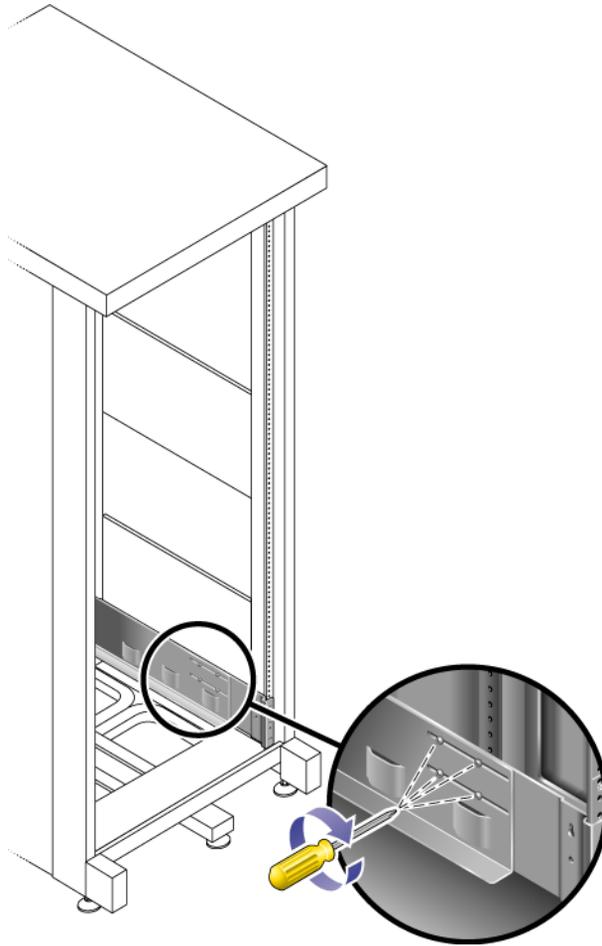

FIGURE 2-7 Tightening the Rail Adjustment Screws
- Using the No. 2 Phillips screwdriver, tighten the eight adjustment screws (four on each side) toward the back of each rail (FIGURE 2-7).